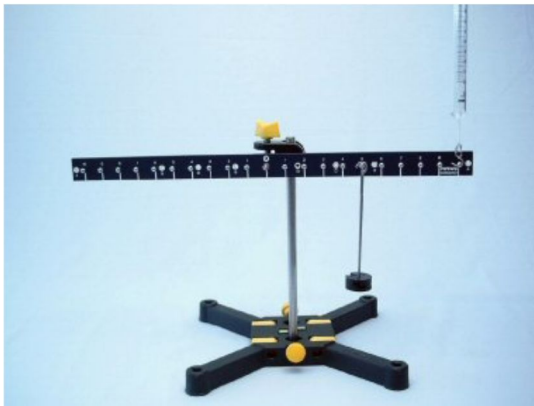

Fig. 8
- Hang the weight holder with a mass of  $m_{tot.} = 40$  g at mark 5 on the right side of the lever (Fig. 8).